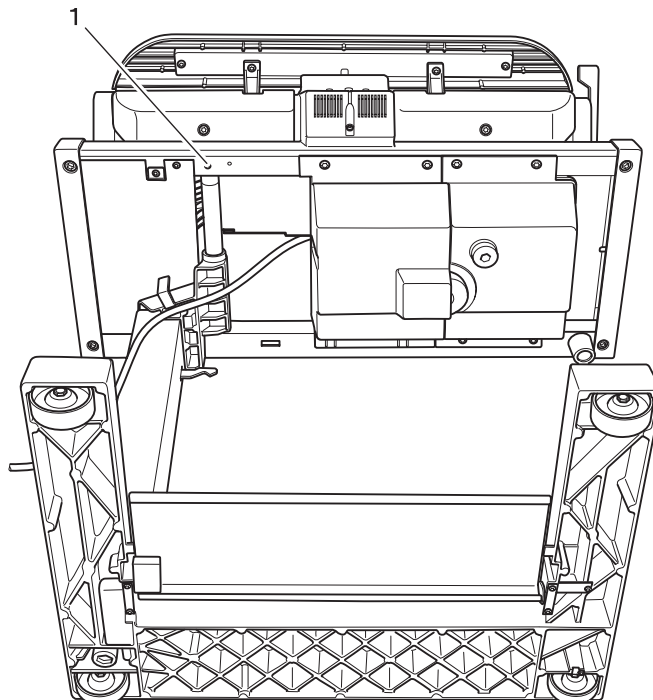

Fig. 17
- Remove screw 1 (fig. 17).
- Tighten screw 1 (fig. 17).